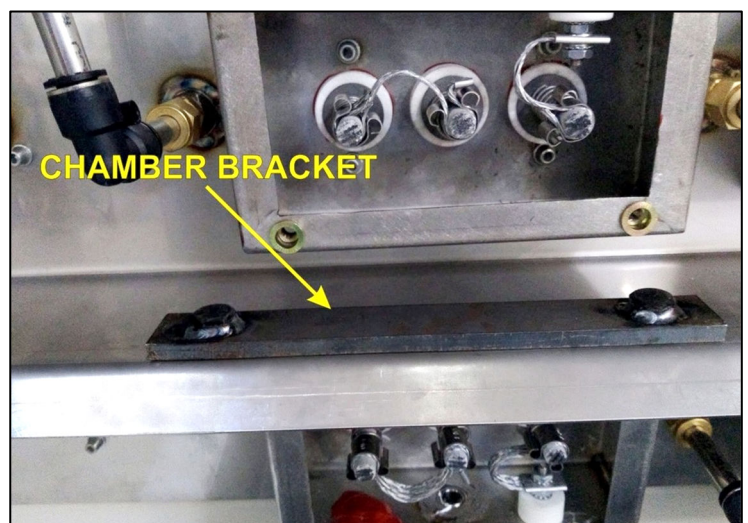

Figure 4-12 LA-series Chamber bracket
3. Remove all chamber brackets from both front and rear sides of chamber using a socket wrench, Figure 4-12.